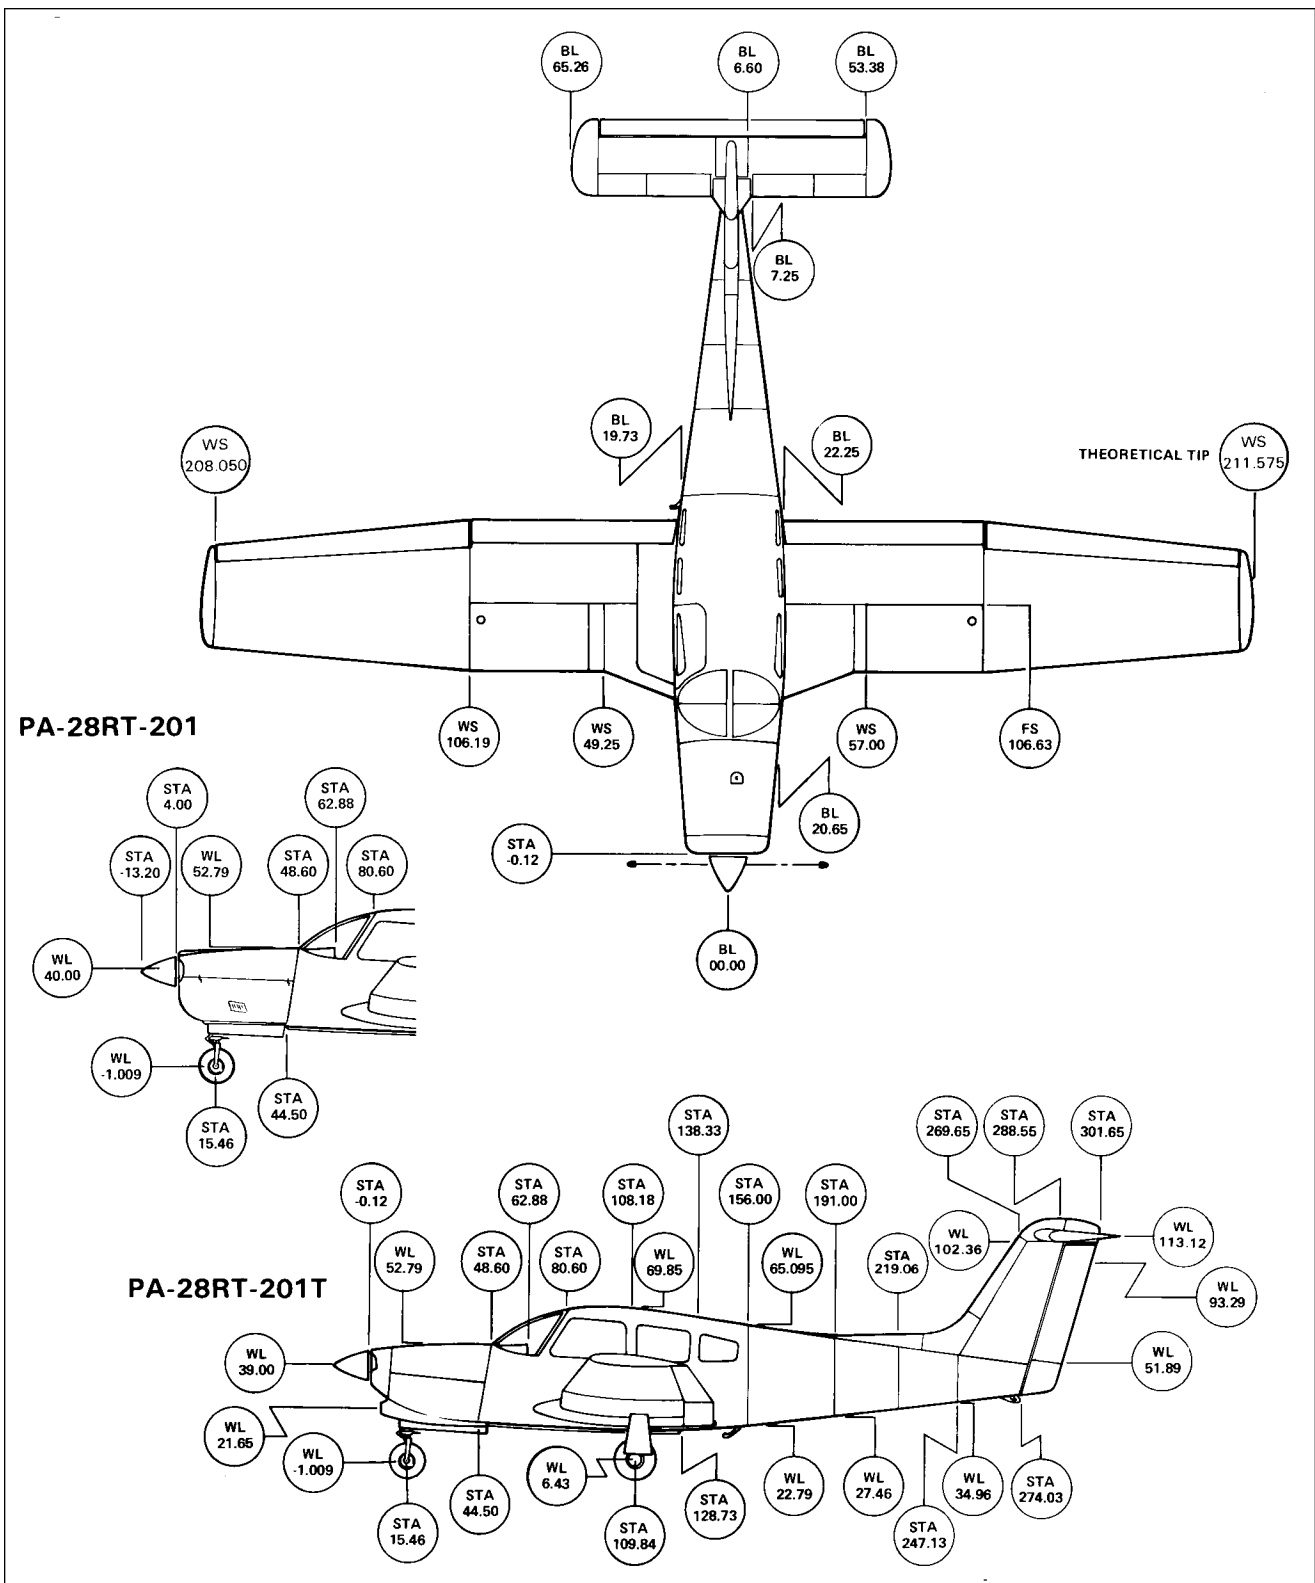

Figure 6-3. Station Reference Lines of PA-28RT-201/201T
In order to facilitate the location of various components of the airplane which require maintenance and servicing, a method utilizing fuselage station (Sta.) wing station or buttock line (BL), and water line (WL) designations is frequently employed in this manual. (Refer to Figure 6-3.) Fuselage stations, buttock and water lines are reference points measured by inches in the vertical or horizontal direction from a given reference line which indicates station locations of structural members of the airplane. Station O of the fuselage is 44.5 inches ahead of the lower edge of the firewall; station O (BL) of the wing and stabilator is the centerline of the airplane; and station O (WL) of the fuselage vertical stabilizer and rudder is 20.5 inches below the cabin floor as measured at the rear wing spar with the airplane level.